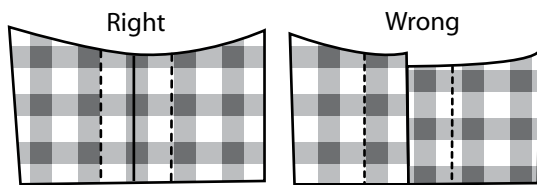

Figure 1
- Be the same length on both sides (Figure 1).